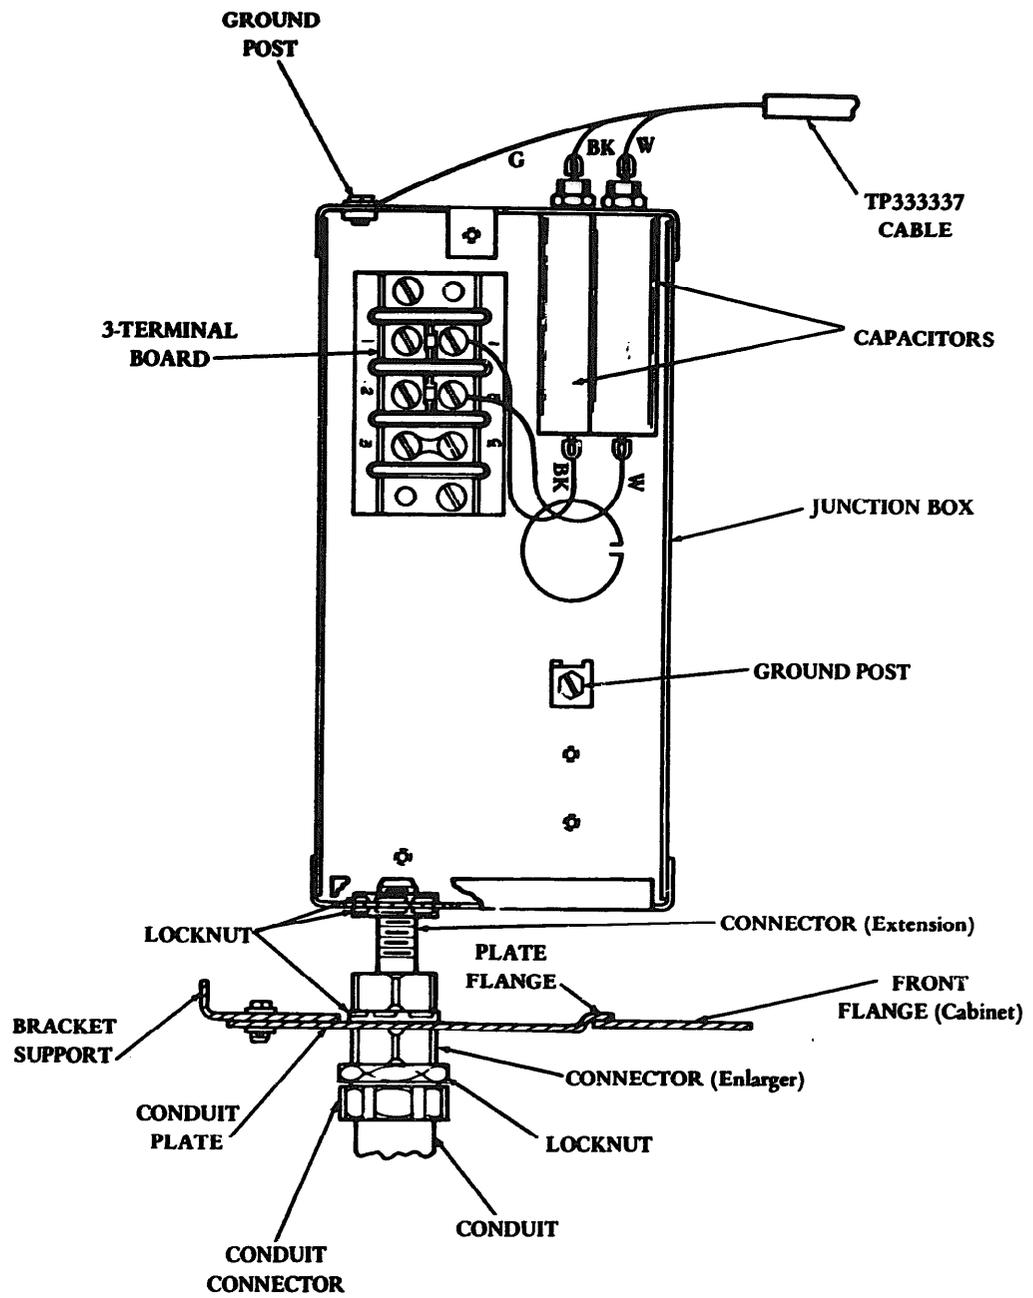

Figure 6 - Conduit Connection and Junction Box
3.10 Insert the 1/2 inch end of a 3/4 inch connector enlarger through the 1/2 inch conduit plate hole with the 3/4 inch end extending from under the plate. Screw on a locknut over the 1/2 inch end of the connector enlarger inside the cabinet, and tighten (Figure 6). Screw on a connector extension over the remaining threads of the connector enlarger and tighten. Screw on a locknut approximately 3/8 inches down on the connector extension.